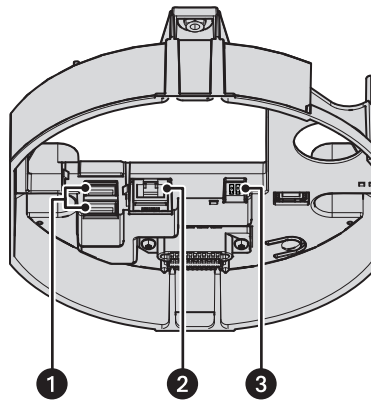

Figure 6. Power Wiring Connections: Pendant Models
4. Connect the power wiring. Refer to Figure 6 and *Wiring* on page 15 for more information.